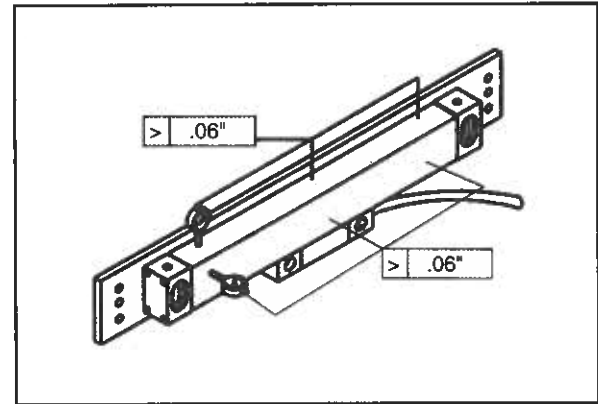

Figure 13. Alignment, more than 37.4" travel.
- For scale travel longer than 37.4" mm (**Figure 13**), the maximum alignment parallelism error must be less than 0.06".